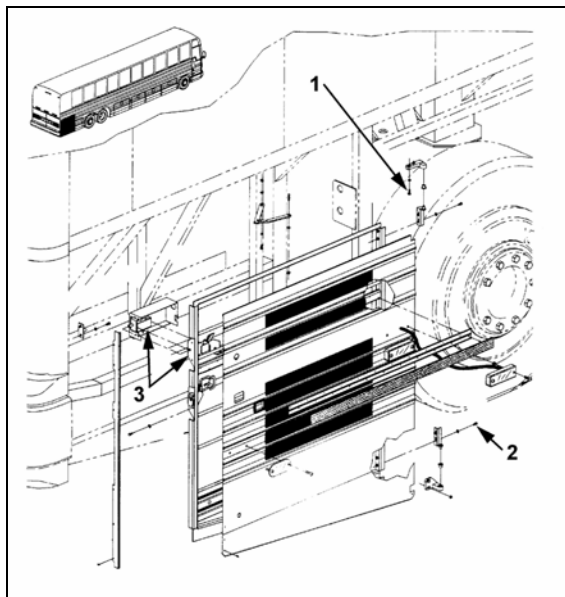

FIGURE 43: ENGINE COMPARTMENT R. H. SIDE DOOR
1. Loosen the bolts, (1, Fig. 43) holding the hinge to the vehicle structure to shift the door "IN or OUT" and "UP or DOWN".
2. Loosening the bolts (2, Fig. 43) allows the door to be shifted "LEFT or RIGHT" and "UP or DOWN".
To adjust the latch mechanism (3, Fig. 43) and the striker pin: